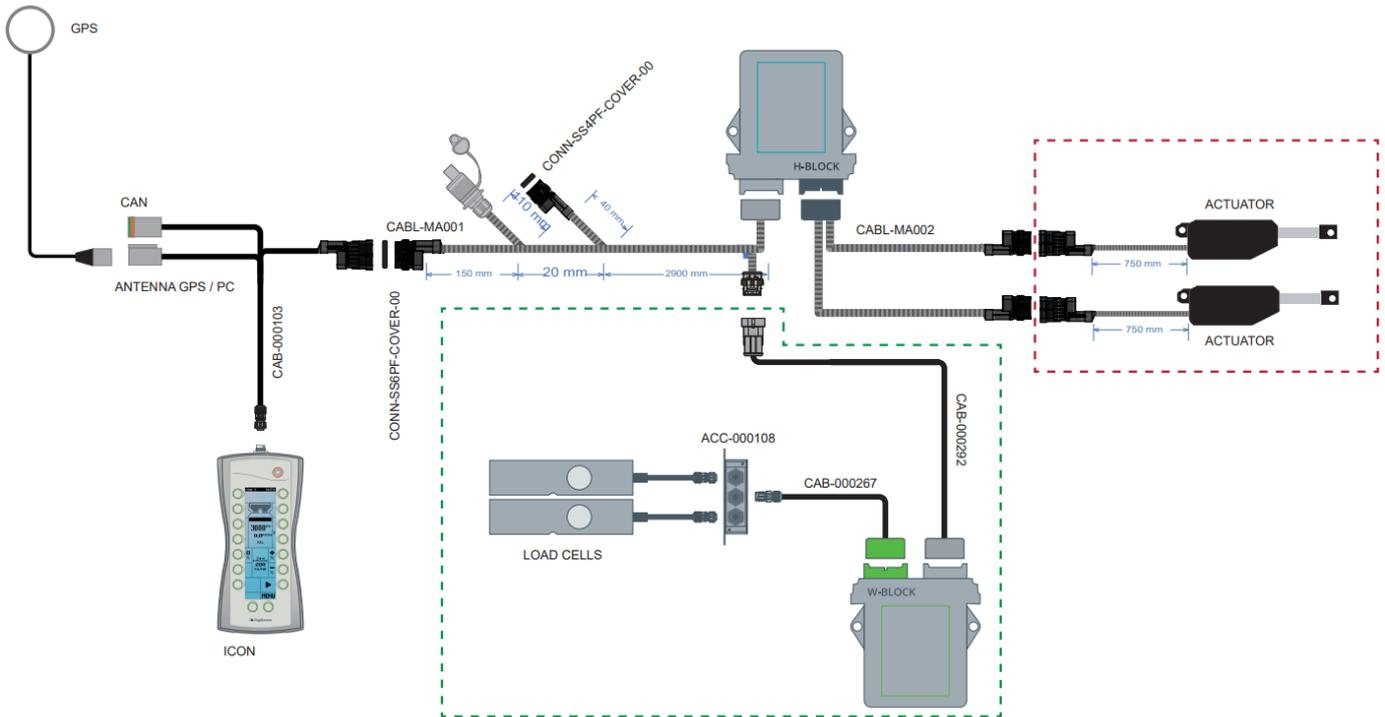

Figure 5.10 - Connection diagram for the weighing application controller
- Connect the plugs to the respective sockets between the control panel and the H-BLOCK control box (Figure 5.10);
- Connect the GPS plug to its socket (Figure 5.10);